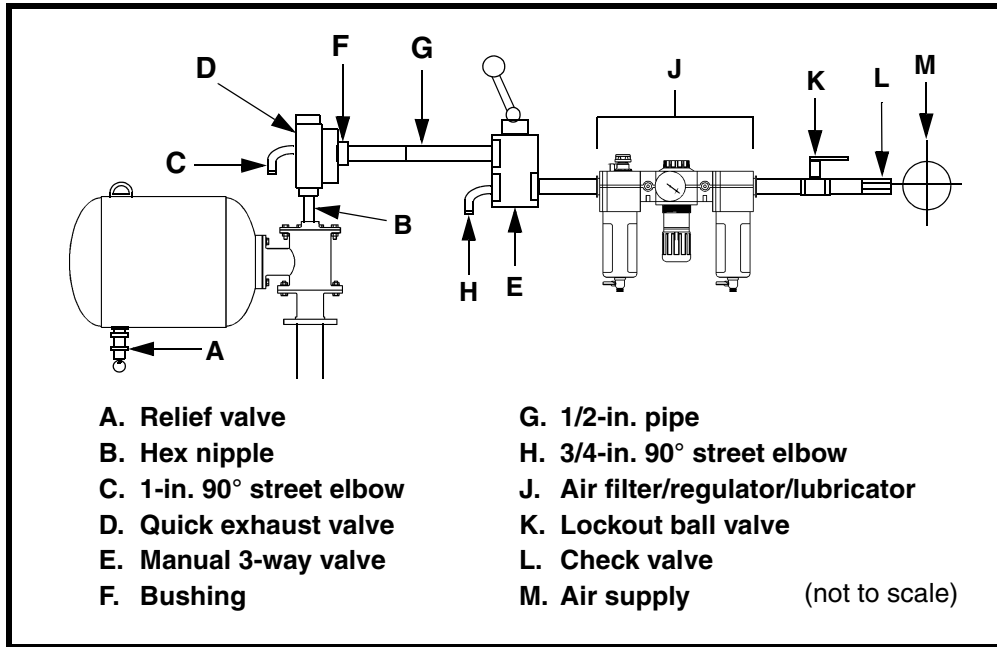
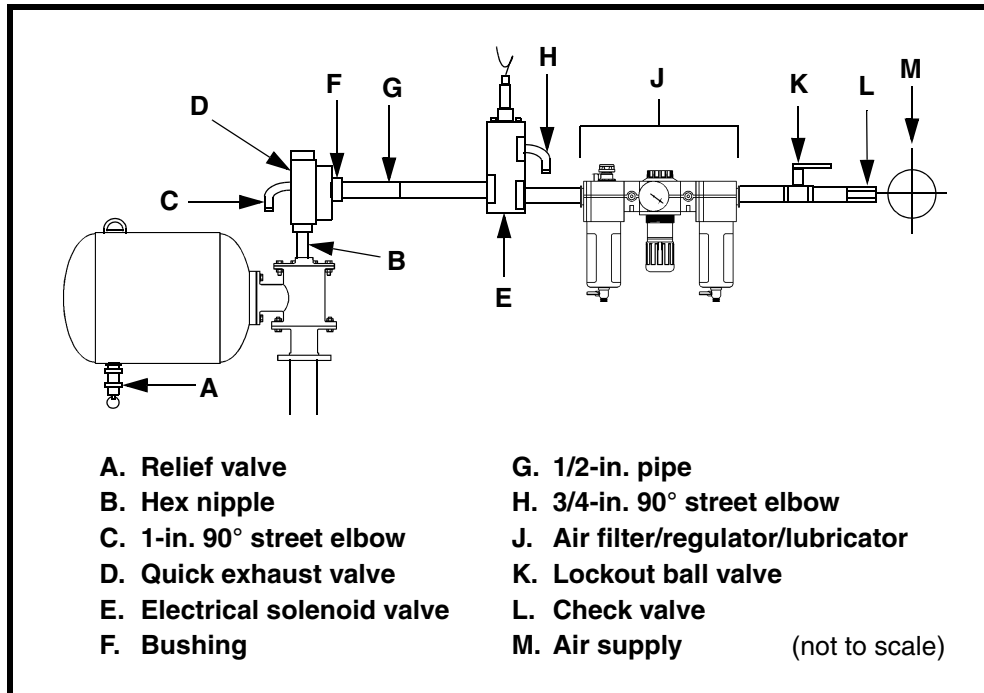

Figure 13. Manual Valve Piping
Figure 14. Electrical Solenoid Valve Piping
2. Remove dust cap from tank inspection port and install relief valve (A, Figure 13 or 14). Make sure other inspection ports are tightly plugged.
5. Choose location for manual 3-way valve (E, Figure 13) or electrical solenoid valve (E, Figure 14).
6. Install bushing (F, Figure 13 or 14) into quick exhaust valve inlet port.
7. Connect manual 3-way valve or electrical solenoid valve outlet port to bushing/quick exhaust valve inlet port with no more than 15 ft (4-1/2 m) of 1/2-in. pipe (G).
8. Install 90° street elbow (H) for manual 3-way valve or electrical solenoid valve into valve exhaust port.